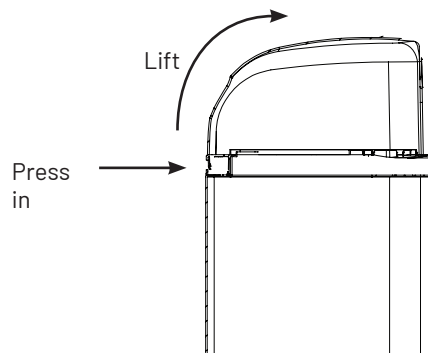

Figure 4.
3. Remove cover by pressing in on the latch and lifting cover ("Figure 4."). When the cover is removed, the valve is visible. Remove the power adapter. They should be secured to the tank collar near the inlet/outlet connections.